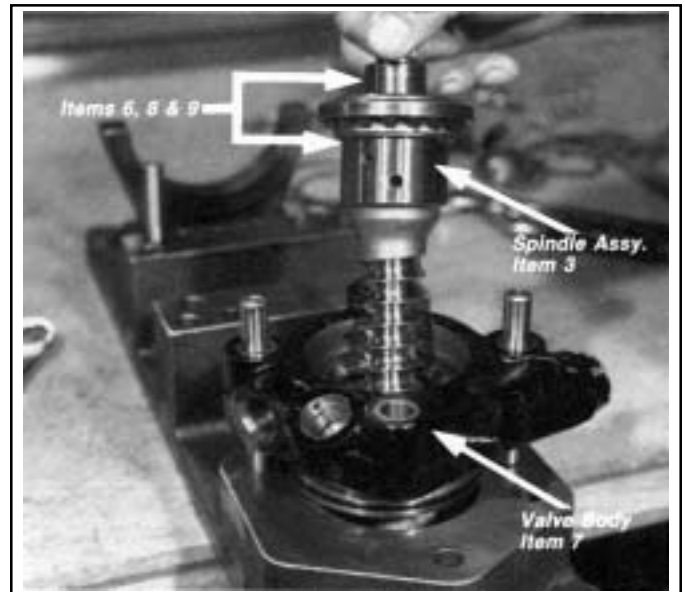

FIGURE 35 - REMOVING/INSTALLING SPINDLE ASSEMBLY
22. Grasp the input shaft end of the spindle assembly(3) and lift the spindle assembly (3), ball cage (6), 17 balls (9) and one half of the outer race (8) out of the valve body. Figure 35